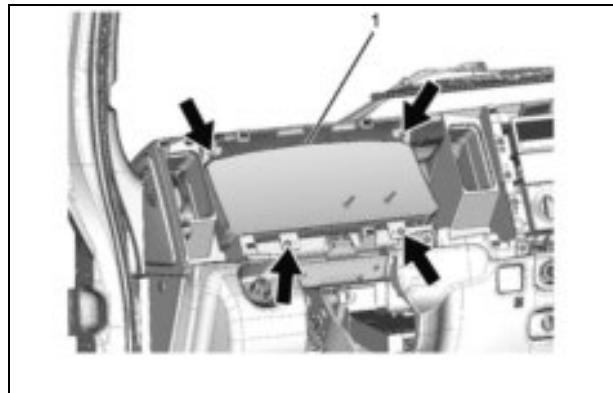

Figure 38
33. Reconnect the instrument panel cluster connector, then install the cluster in the IP and install the four (4) T25 screws removed in Step 16. (See Figure 38.)